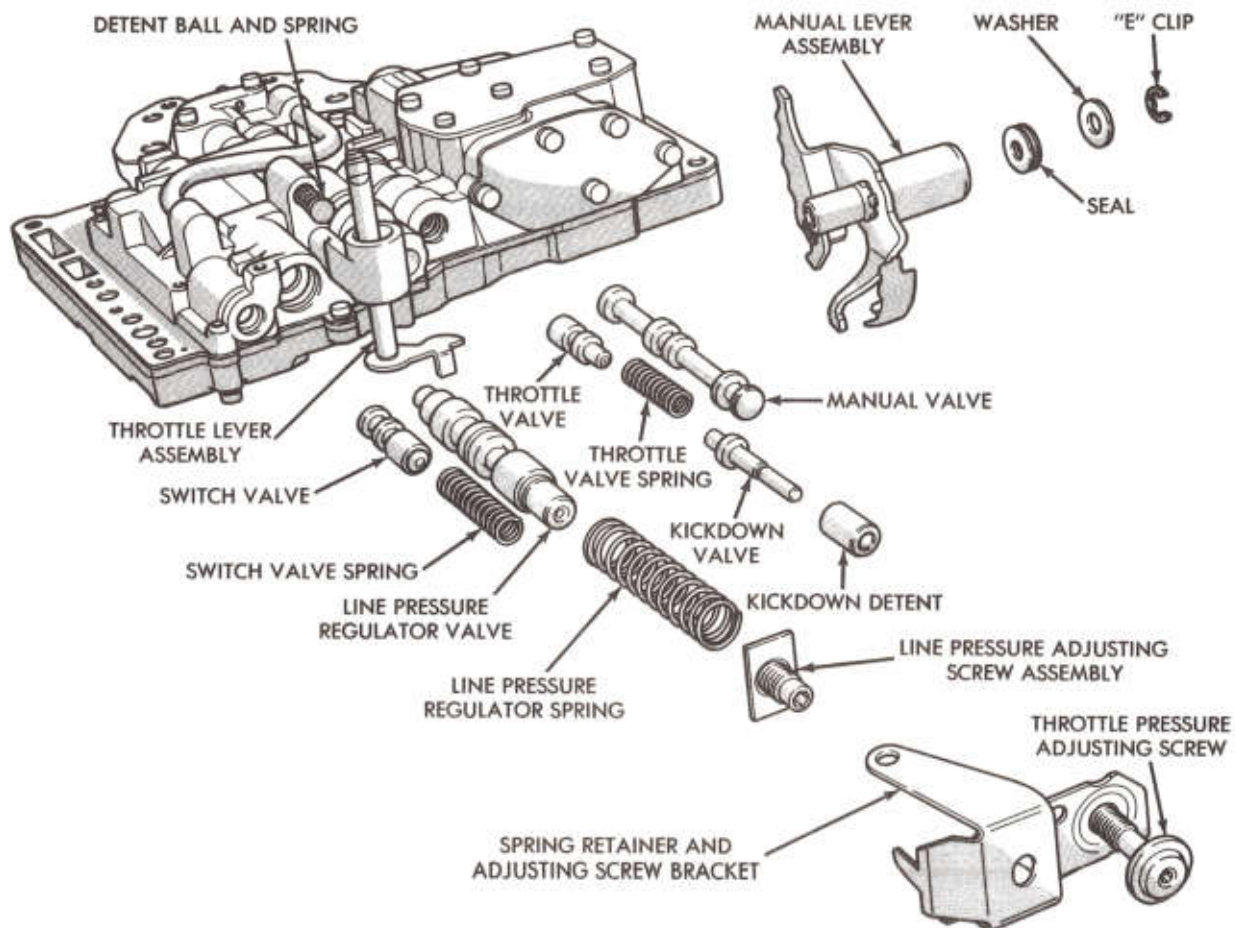

Fig. 2—Pressure Regulators and Manual Control
(1) Remove E-clip and washer from throttle lever shaft (Fig. 2). Remove any burrs from shaft, then while holding manual lever detent ball and spring in their bore with Tool C-3765 or similar tool, slide manual lever off the throttle shaft. Remove the detent ball and spring.
(2) Slide manual valve out of its bore.
(3) Slide out the kickdown detent sleeve, kickdown valve, throttle valve spring, and the throttle valve.